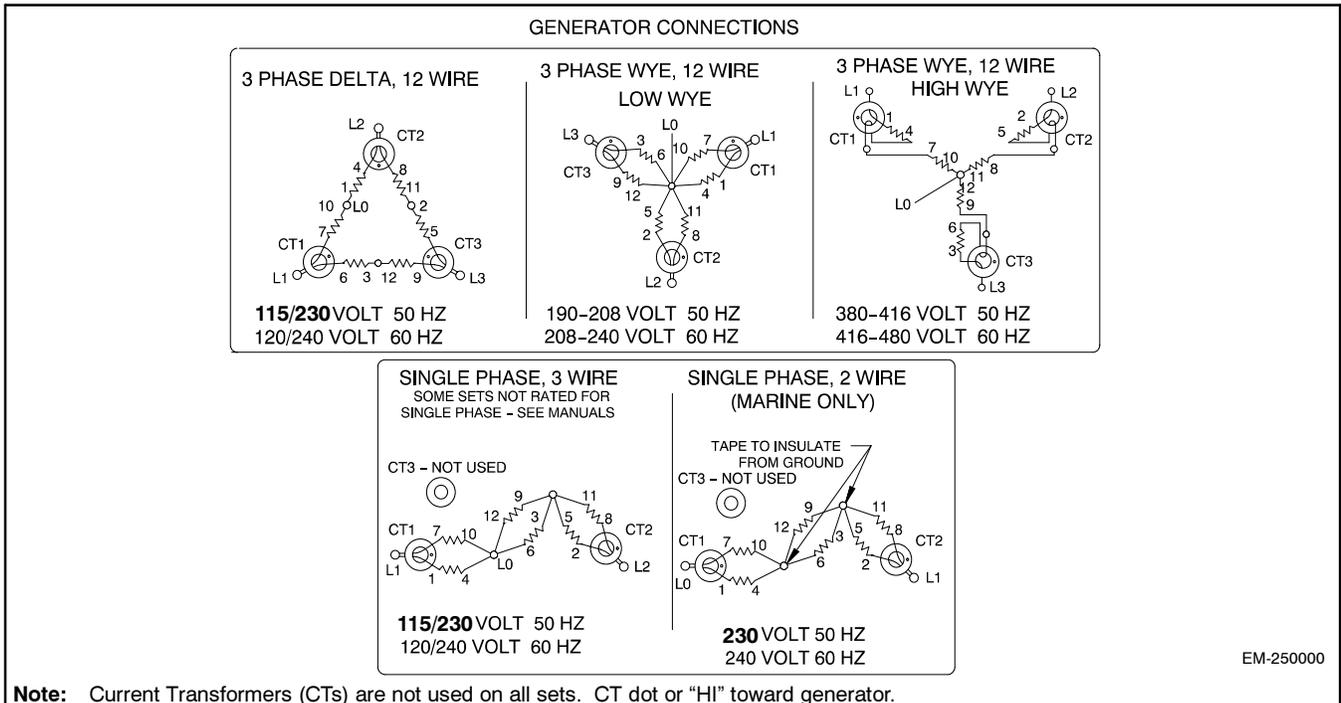
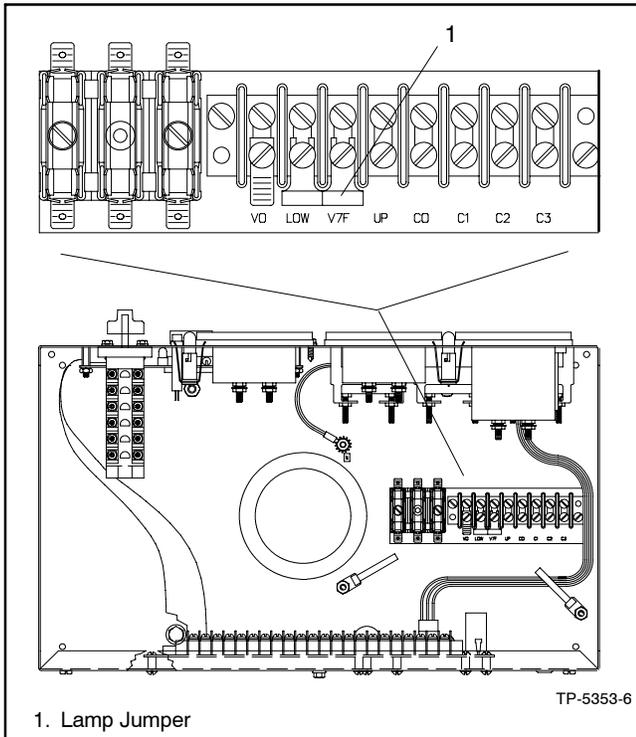

Figure 8-3 Generator Reconnection
Figure 8-4 Meter Scale Lamp Jumper
4. Use Figure 8-3 to determine the generator set voltage configuration. Note the original voltage and reconnect the generator set as needed. For units with current transformers, route leads through current transformers (CTs) and connect the leads according to the diagram for the desired phase and voltage.
5. If the controller has meters, remove the controller cover and reposition the meter scale lamp jumper (see Figure 8-4) matching the position of the desired voltage (shown in Figure 8-3).
5. Connect a digital AC voltmeter (or other 1% minimum accuracy voltmeter) to terminals V0 and V7 on the controller terminal block. See Figure 8-4.